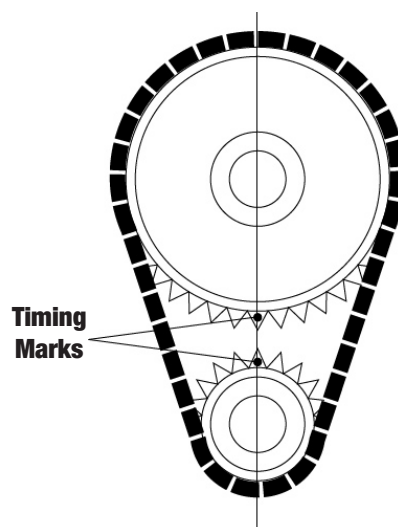

Figure 2 - Timing Chain Sprocket Alignment
PUSHRODS AND ROCKER ARMS: High performance pushrods, rocker arms, and studs are recommended for this installation. After the cam is installed and timed correctly (**See Figure 2**), it will be necessary to check each pushrod for correct lifter preload.
17. Rotate engine until timing marks are aligned **(See Fig. 2)**.
4. Line up camshaft with timing marks aligned **(See Fig. 2)**.